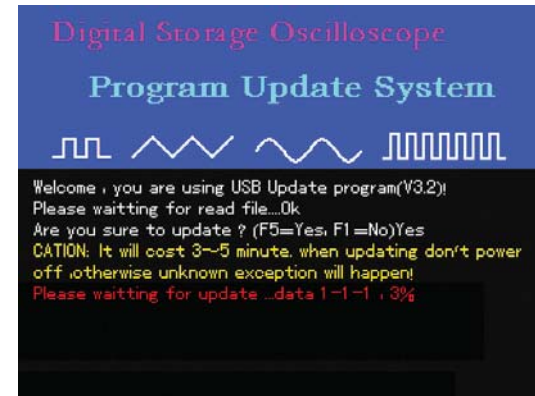

Figure 5-4
5. On the screen shown in Figure 5-3, press [F5] to confirm you require to upgrade the program. The screen shown in Figure 5-4 will appear with the following prompt : “CAUTION : It will cost 3-5 minute. When updating don’t power off, otherwise unknown exception will happen! Please waiting for update ...data ...%”